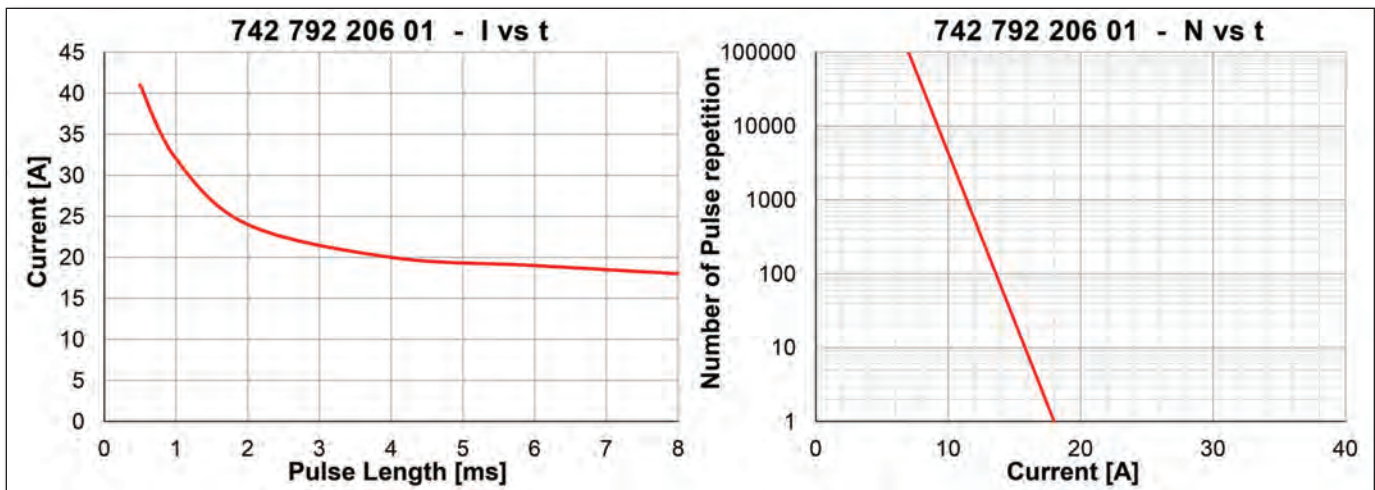

FIGURE 4: Permissible peak current by pulse length (left) and pulse number (right)
Figure 4 shows the new ferrite bead’s current pulse tolerance behaviour in more detail using the 742 792 206 01 bead type as an example. The current vs. pulse length curve on the left side shows the maximum permitted peak current for pulse lengths ranging from 0.5 ms to 8 ms. Each ferrite bead type has an individual curve of this kind and these curves are only applicable for singular current pulses. The right graph
- The number of pulses, which was varied from 10 to 100,000 pulses in the tests (see Figure 4). The maximum permissible current pulse load drops as the pulse frequency increases.